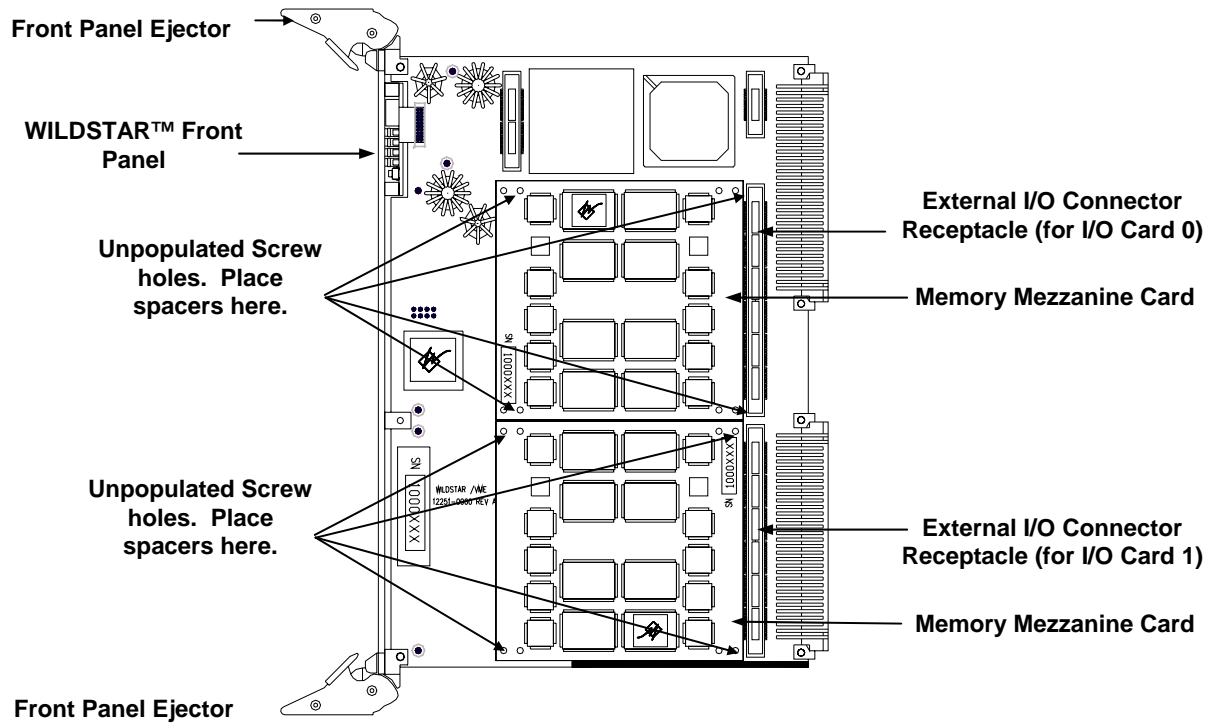

Figure 4-1: WILDSTAR™/VME Board (Component Side)
9. Carefully slide the connectors through the proper cutouts of the VME front panel. See Figure 4-1.